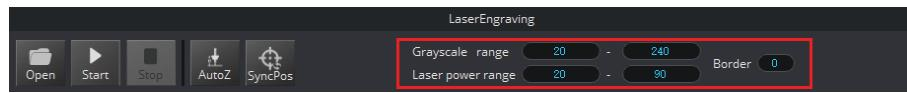

Figure 5.95 Set the grayscale range, laser power range, and border
**Step 3** Set the **Grayscale range**, **Laser power range**, and **Border**, as shown in Figure 5.95. For details, see Table 5.11.